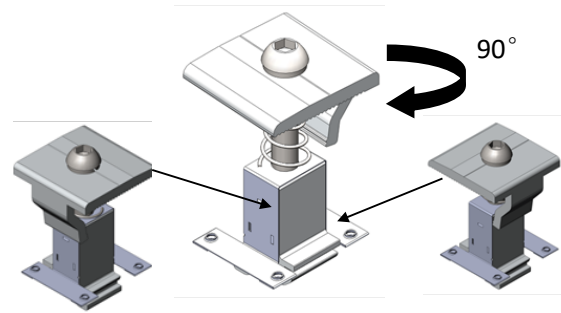

Fig. 27
Step 1 Twisting the head of the Universal Clamp changes the functionality from end to inter clamp as shown in Fig. 27.